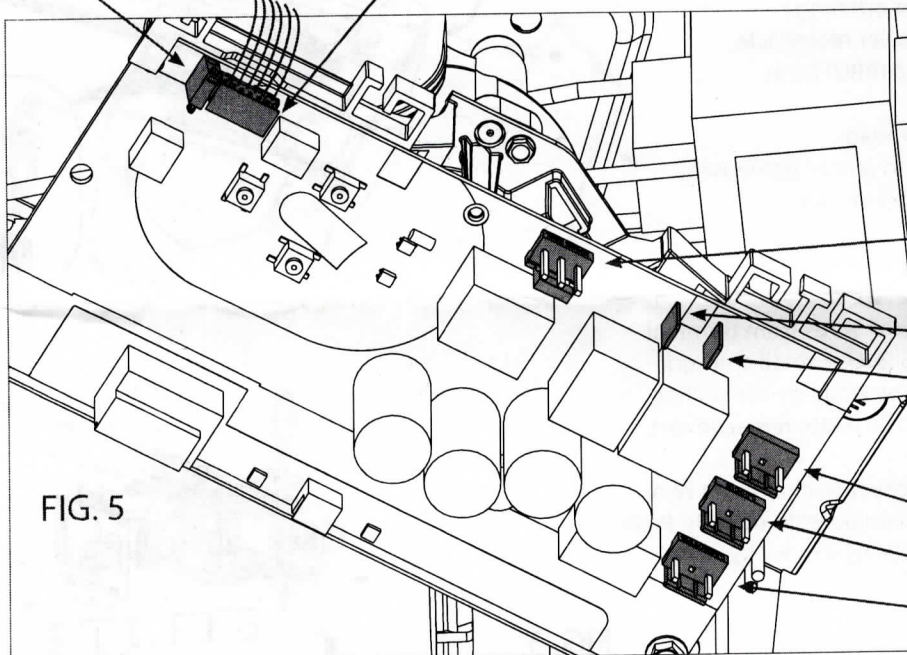

FIG. 5
7. Unplug these harnesses from control board. FIG. 5.
- Motor Wires (2)